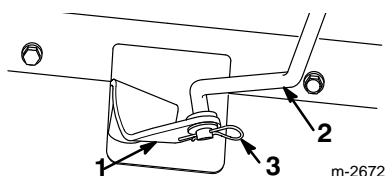
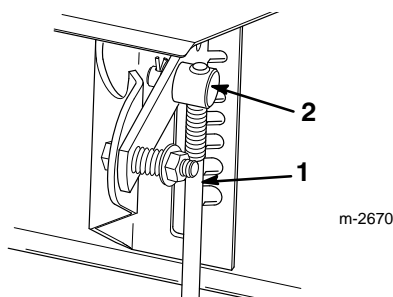

Figure 5
Figure 6
1. Pull the speed selector arm (Fig. 5) to the fully “out” position.
3. Rotate the speed selector rod in the trunnion (Fig. 6) until the bottom end of the rod slips into the hole in the speed selector arm (Fig. 5).
4. Install the speed selector rod into the selector arm, add one flat washer on the rod, and secure it with a cotter pin (Fig. 5).